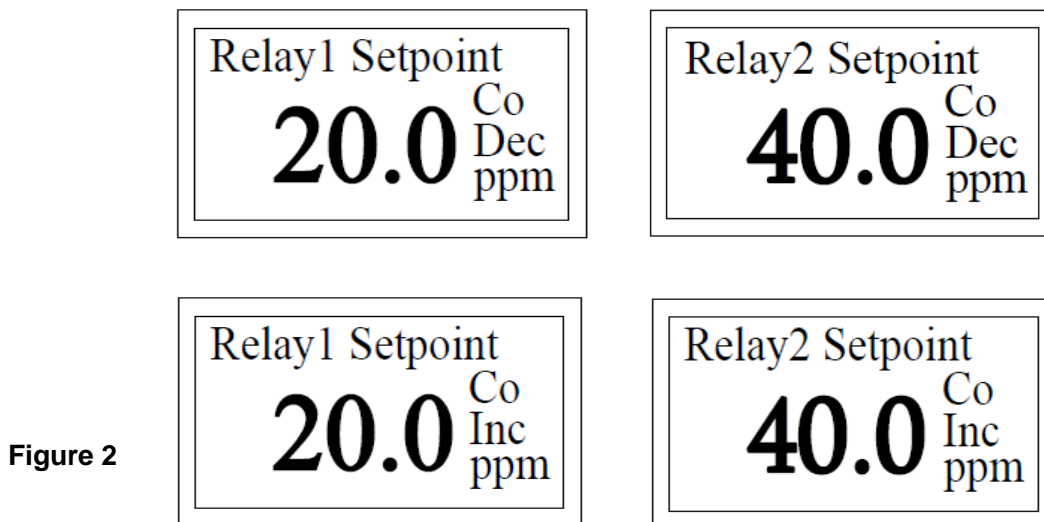

Figure 2
5. The default Relay 1 set point is 20ppm and Relay 2 set point is 40ppm. Press **SET** key can toggle to show the two set points. Moreover, the two relay set points can be changed by **▼** or **▲** key. Please refer the 'P13' item of advanced parameter setting about the control logic of the two relay outputs. As shown table 1. When the CO measured value is higher than set point of Relay 1, **on1** will show on the screen. When the CO measured value is higher than set point of Relay 2, **on2** will also show on the screen. **Dec** on the screen stands for decrease mode and **Inc** is for increase mode. As shown figure 2.